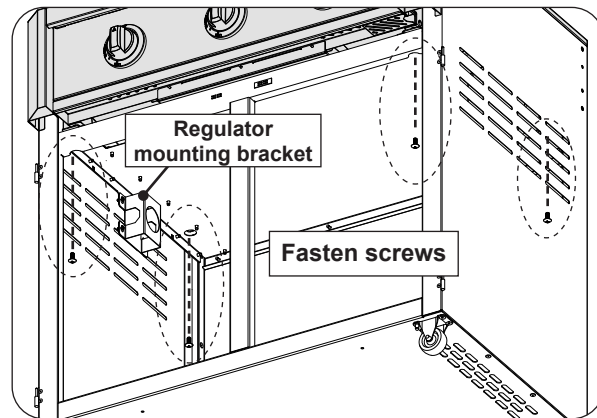

Fig. 11-2 Secure appliance to cart base
6. Open both cabinet doors. Secure the grill to the cart base by fastening the four included Phillips-head screws to the appliance's front and rear legs from inside the cabinet. See Fig. 11-2. Tighten securely.
1. Locate the regulator mounting bracket assembly that is pre-mounted on the upper left side of the cabinet interior. See Fig. 11-2.